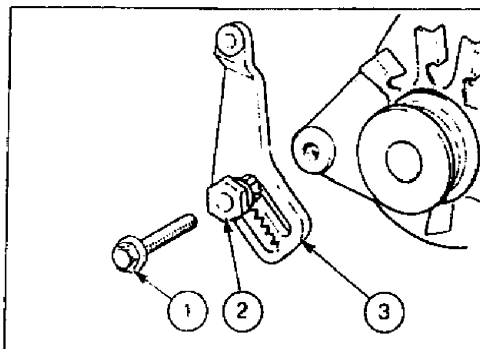

Fig. a2 - Rack & pinion adjuster.
4. Loosen the adjuster centre locking bolt. (1) in Fig a2.